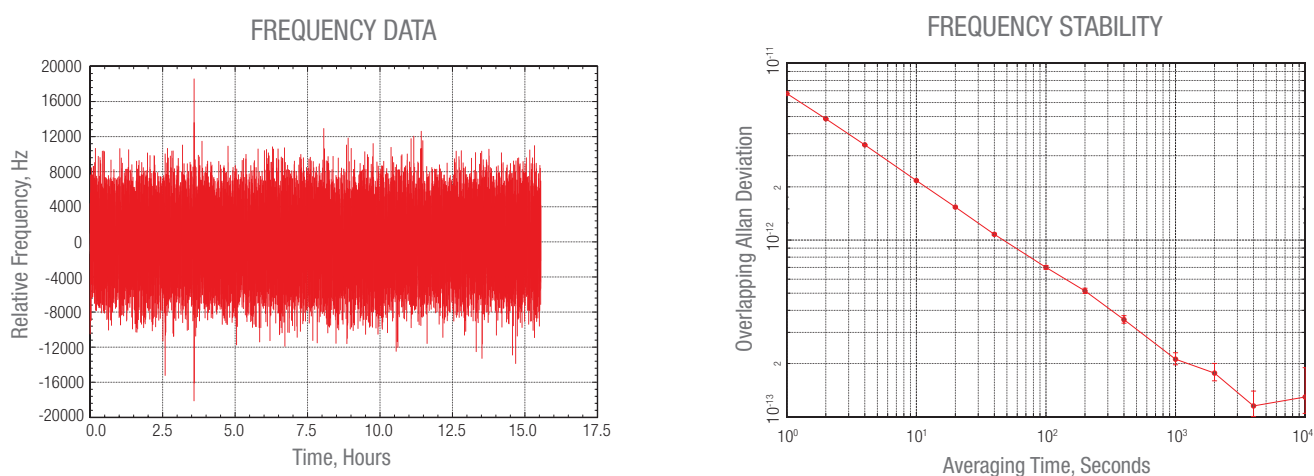

Fig. 1: Left: Raw data, Right: Allan Deviation
The first stop of the SmartComb Tour was BEV in Vienna (Bundesamt für Eich- und Vermessungswesen). Dr. Michael Matus and his colleagues started out with the first commercial Ti:Sapphire comb from Menlo Systems back in 2002, followed by nearly ten years of using an FC1500-250 from Menlo Systems to regularly calibrate Helium-Neon lasers. Their two commercial iodine-stabilized Helium-Neon lasers were measured (Präzisions-Messtechnik Dr. Ulrich Hoppe PMT-HE-96 “BEV-1”, and Winters Electro-Optics Model 100 “BEV-2”). The SmartComb was connected to the local 10 MHz Hydrogen Maser reference, which is regularly calibrated against their Cesium clock. A measurement was conducted over 16 hours over night on BEV-1 as shown in **Fig. 1**. The result showed +3.088(27) kHz as compared to the recommended value of 473 612 353 604 kHz, which had previously been confirmed in a measurement using the FC1500-250 resulting in +3.139(75) kHz. A similar measurement was conducted on BEV-2 over a 70-minute measurement of the transition, confirming the previously measured value.